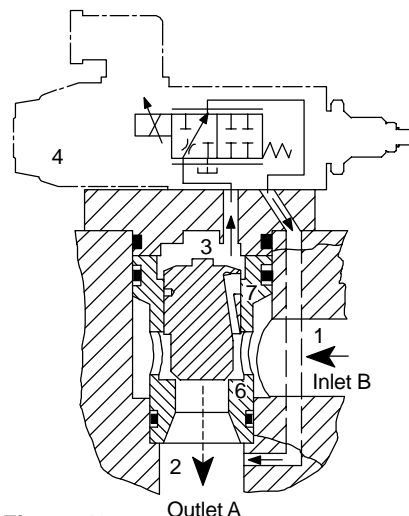

Figure 40
(1), due to the controlled small opening at the variable orifice. As the upper area of the poppet is greater than the area facing the inlet (1), the poppet is held against its seat (6) by a force proportional to the difference between valve inlet and outlet pressures.
Opening the pilot throttle valve (Figure 40) lowers the pressure in volume (3) allowing the main poppet to move off its seat. As this occurs the slot passes the metering edge (7), opening the variable orifice and allowing flow through the pilot circuit. Initially the flow through the pilot valve equals the flow through the slot plus the volume displaced by the opening movement of the main poppet.